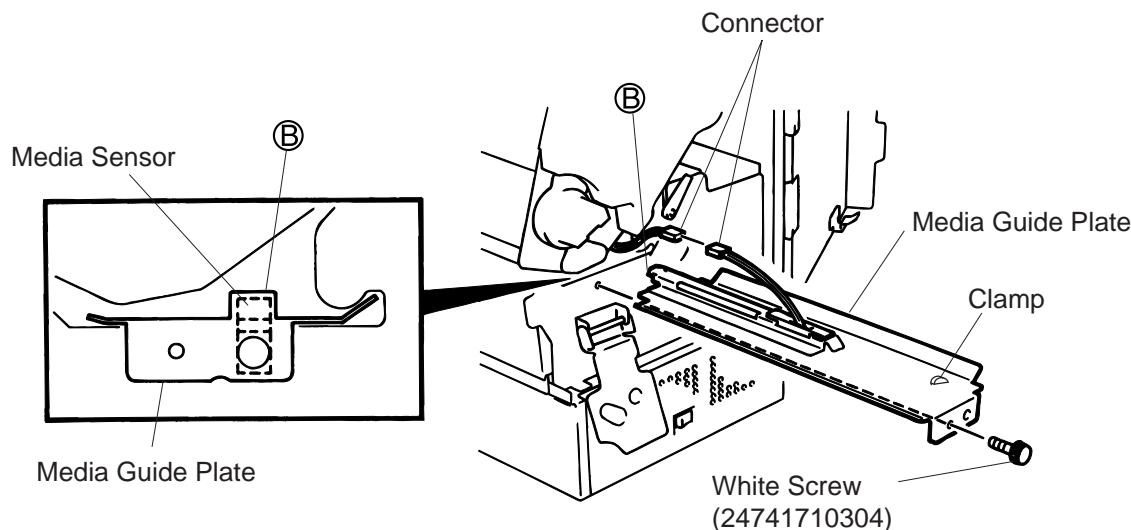

Fig. 12-5
4. Remove the white screw, unclamp and disconnect the connector of the media guide plate, and then detach the media guide plate. (See Fig. 12-5.)